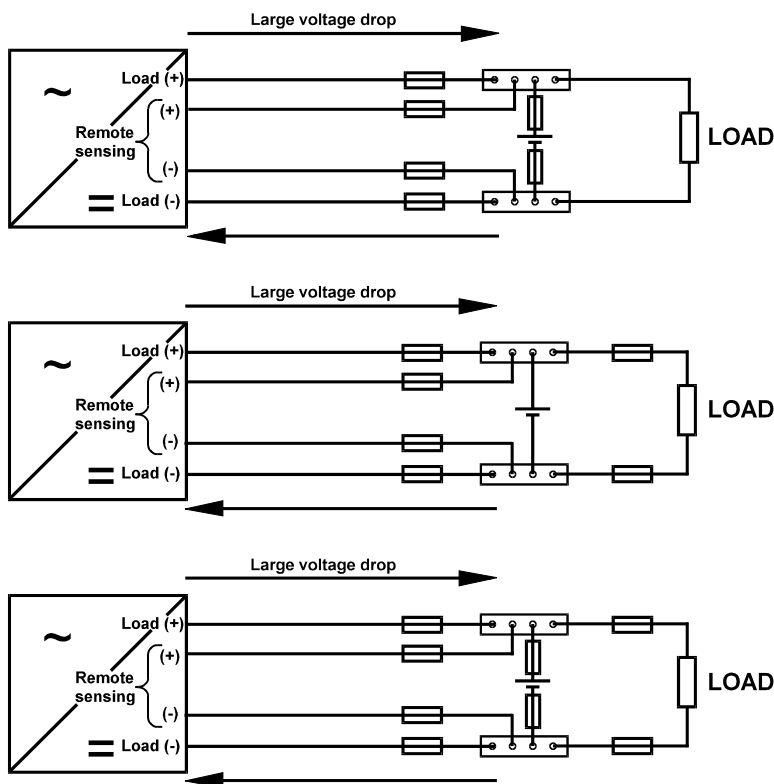

Figure 5. Remote sensing
- Remote sensing:** If the voltage drop between the rectifier and the battery is large for example caused by long cables, remote sensing is recommended. Remove contact P7 on board 7781 and also remove the connected cables on terminal P9. It is very important that the contact P7 is removed first. Connect remote sensing cables from the battery distribution fuses to terminals P9:(+)/(-). It is important that connection is done right. (see figure 5). The voltage displayed (on the LCD-display) will then be the actual battery voltage. The battery voltage can also be measured on the front.